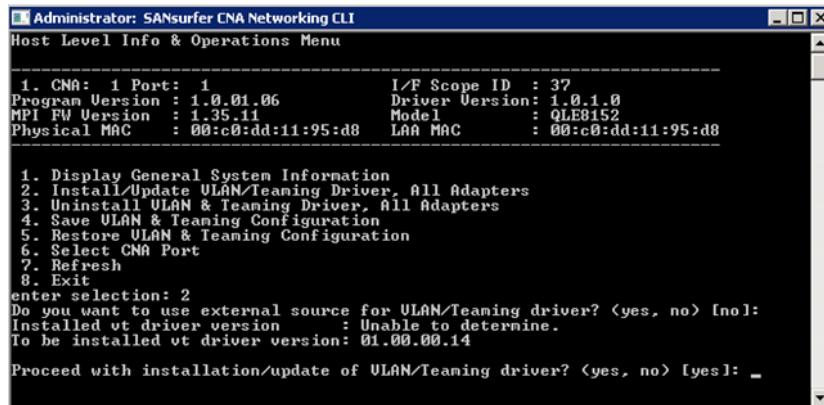

Figure 6-12. Confirm VLAN/Teaming Driver Installation
6. The current VLAN/teaming driver version and the version to be installed are displayed. If this is correct, type **yes** to proceed with the installation (Figure 6-12).